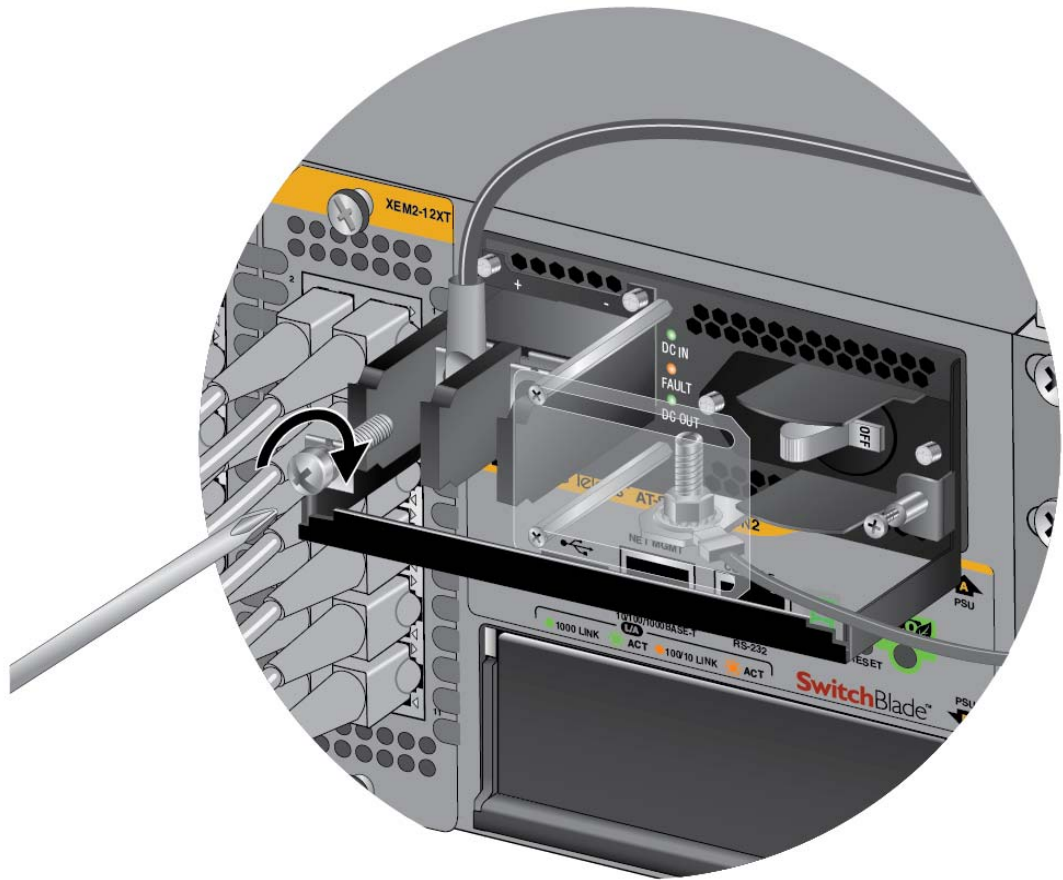

Figure 66. Connecting the Positive (+) Power Wire with a Straight Terminal
6. With a #3 Phillips-head screwdriver, connect the positive (+) power lead wire to the positive terminal on the power supply, with one of the terminal screws removed in the previous step. The positive terminal is on the left. You may attach the terminals with the wires either above or below the terminal block. Figure 66 on page 97 shows the positive wire above the terminal block.